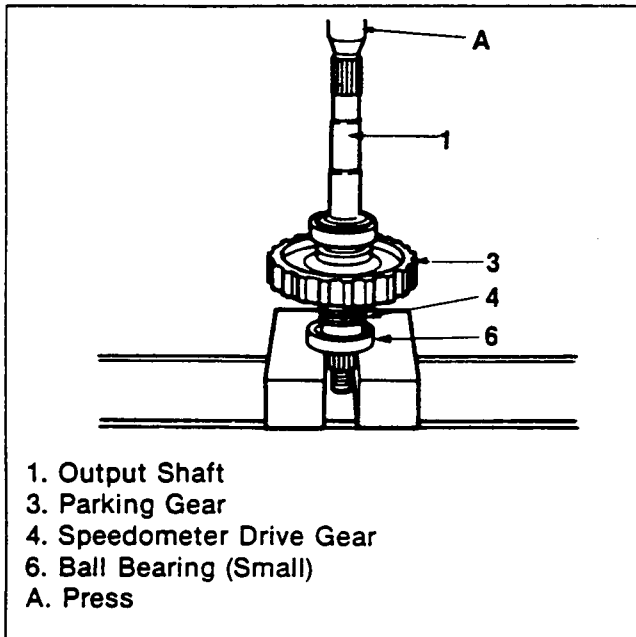

Figure 187. Ball Bearing (Small) Installation
4. Install a new ball bearing (small) (figure 187).